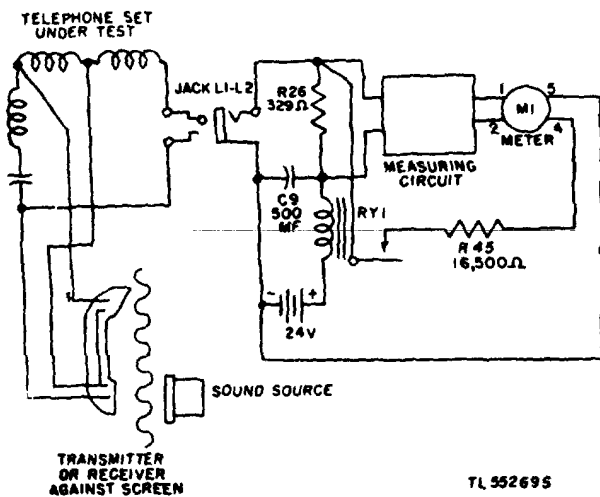

Figure 22. Schematic diagram of test circuit for common battery telephones.
b. COMMON BATTERY TELEPHONES (fig. 22). Telephone sets similar to Telephone TP-6 are tested while connected to a 320-ohm a-c impedance circuit in the test set. The battery for the telephone transmitter, supplied through the test set, consists of 24 volts with approximately 361-ohms series resistance. These test conditions approximate the battery and impedance conditions obtained with the telephone connected to a common-battery-type switchboard over a 3-mile loop of 19-gage cable.